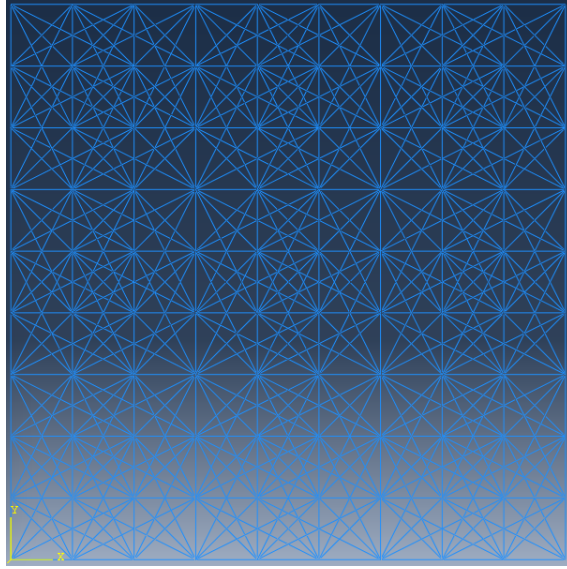

Figure 2: Element Generation
- This process iterates until all material point pairs within the horizon have been assigned a truss element as shown in figure 2.